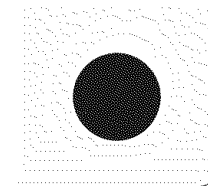
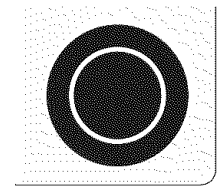

Fig. 5
Fig. 6
2. Push in and turn the control knob counterclockwise (See Figs. 5 & 7) for smaller cookware or clockwise (See Figs. 6 & 8) for larger cookware to the desired setting using the ESEC digital display window for the desired setting.